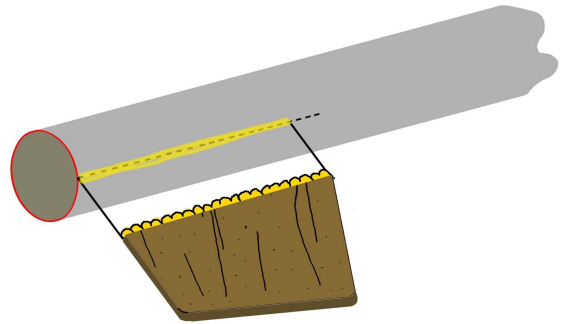

Figure 6
- **Step 15** Slide the fin alignment guide down from the top of the body tube until it is about 1/2" above the 2" line. Apply a bead of full-strength glue to one of the fin alignment lines, directly over the glue applied in step 12. Apply a similar bead of full-strength glue to the root edge of one fin. As shown in Fig. 6 above, press the root edge of this fin onto the wet glue on the fin line, with the tip of the leading edge at the 2" line and the trailing edge at the body tube edge. Hold the fin in place for about 15 seconds, keeping the fin straight out from the tube. Using the soft brush, slightly moist, gently wipe away any excess glue that squeezed out from the joint, and form a fillet with what remains. Slide the fin alignment guide down over the fin to make sure the glue sets with the fin in the correct position. Let this dry at least 30 minutes before sliding the guide back up. Repeat this sequence for the remaining three fins.